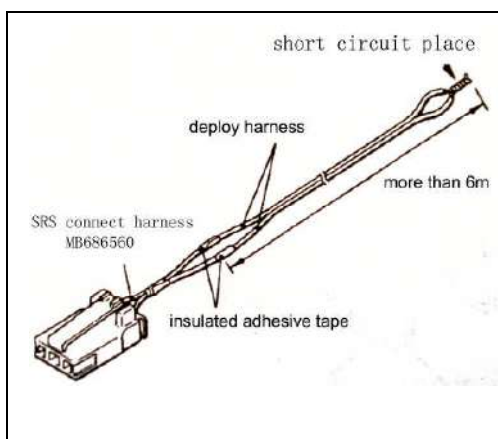

Fig 19-52
2) Connect deployment wires 6 m or longer with the SRS air bag adapter harness respectively. Insulate the connection with tape. Also, connect the other ends of the deployment harness each other to short, thereby preventing the front passenger's air bag from accidental deployment caused by static etc. (See fig 19-52)